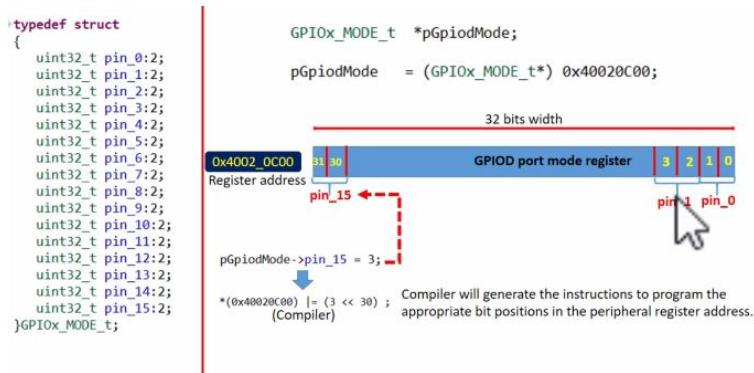

Figure 3.74: Structure implementation and encoding for register
- Once we create the **typedef struct** which encode different register, Figure 3.74 shows the implementation and what happen inside the compiler